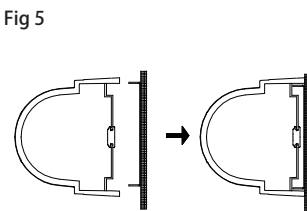

Fig 5
5. Fix the light to the mounting plate. (Fig 5)